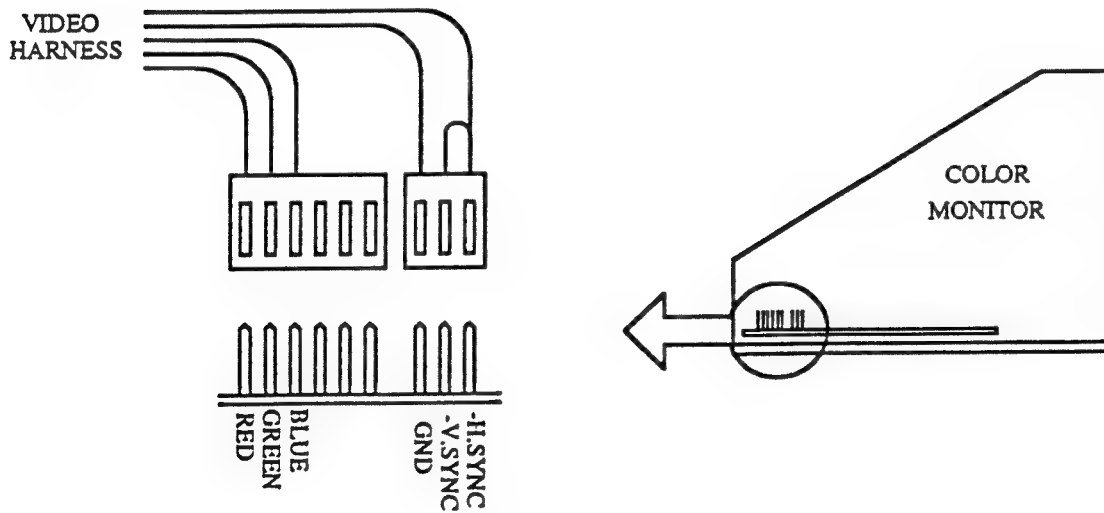

FIGURE 6
22. Connect the T.V Monitor as shown in figure 6.